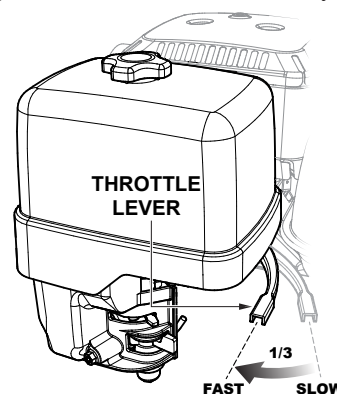

Figure 10. Engine Throttle Lever (1/3 Start Position)
3. Move the **engine throttle lever** (Figure 10) away from the slow position, about 1/3 of the way toward the fast position.